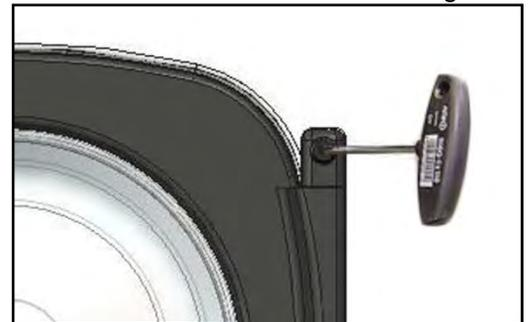

Fig. 13.4
- Disassemble the hinge locking screws. (Fig. 13.4).